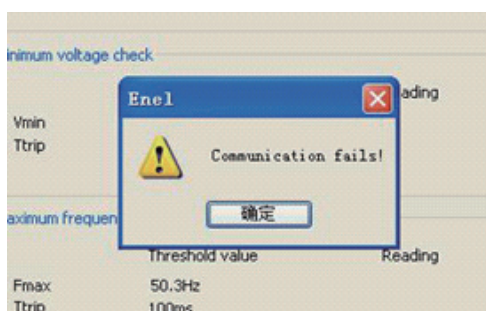

Figure 38
31. If you click "OK" button, a warning message as shown in figure 38 appears, please check the RS-232 communication connection between the Inverter and PC.
In figure 38, press any arrow key to move the cursor to the " System Info" and then press "OK", you will see the machine serial number, software version and so on. Press "ESC" and will return to the superior interface progressively.